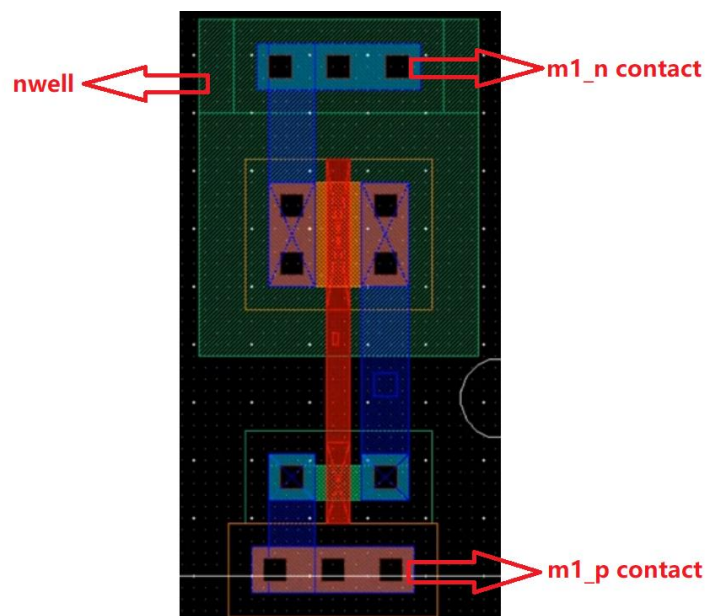

Figure 12.
- Figure 12 shows the types of contact used for building the power rail. After placing the m1_n contact and m1_p contact, expand the nwell area by selecting nwell from the left panel and creating a rectangle to cover the m1_n contact and PMOS transistor.
- In Figure 12, poly layer is used to connect the poly gate inputs of NMOS and PMOS transistors. Select layer M1 to: